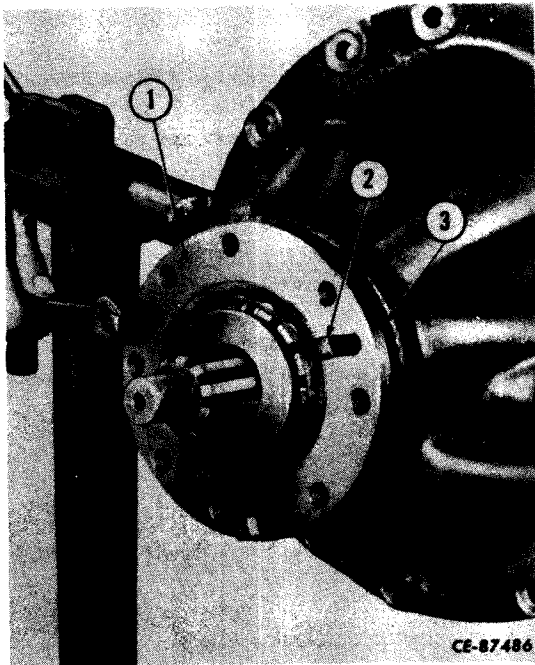

Figure 6-17
Using jack screws (2, Fig. 6-17) in tapped holes provided in bearing cage, remove cage (1).